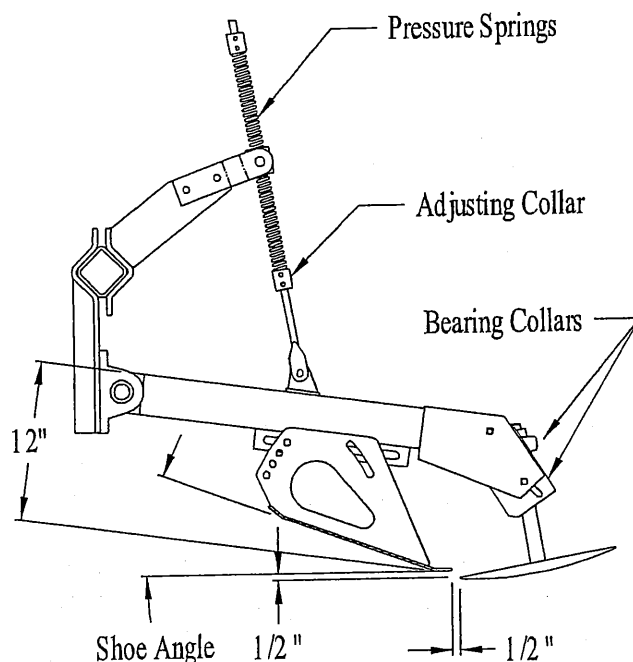

Figure 5.
### 2. Unpowered Disk Scalper (Figure 5):
- Adjust the shoe angle so the bottom lip of the shoe is level when touching the ground and the bottom of the shoe is approximately 12" from the top of the scalper arm (see Figure 5).
- Adjust the disk to have a slight angle toward the shoe as illustrated in Figure 5. Remove the top bolt holding the disk assembly and only loosen the bottom bolt. Move the disk to the desired angle, and then reinstall the bolts (tighten securely). **Note: The relationship between the tip of the disk and the shoe will remain the same when the angle of the disk is changed.**